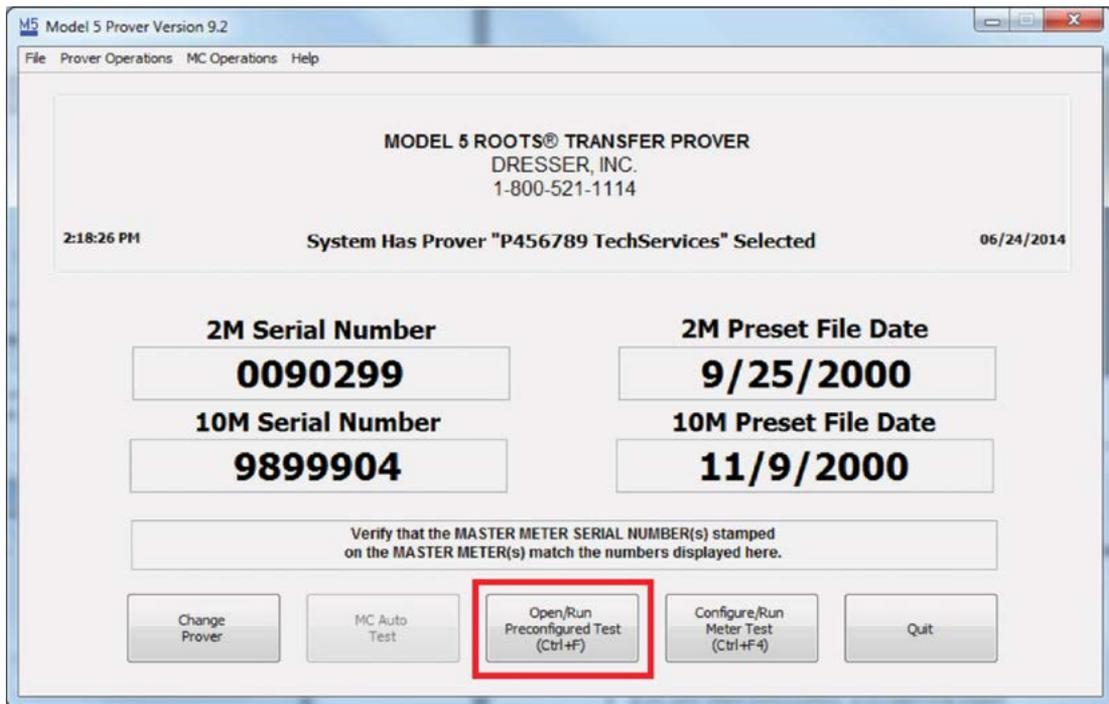

Figure 94: Open/Run Preconfigured Test Selection
1. From the Prover Main Screen, select "Open/Run Preconfigured Tests" as shown in **Figure 94**.